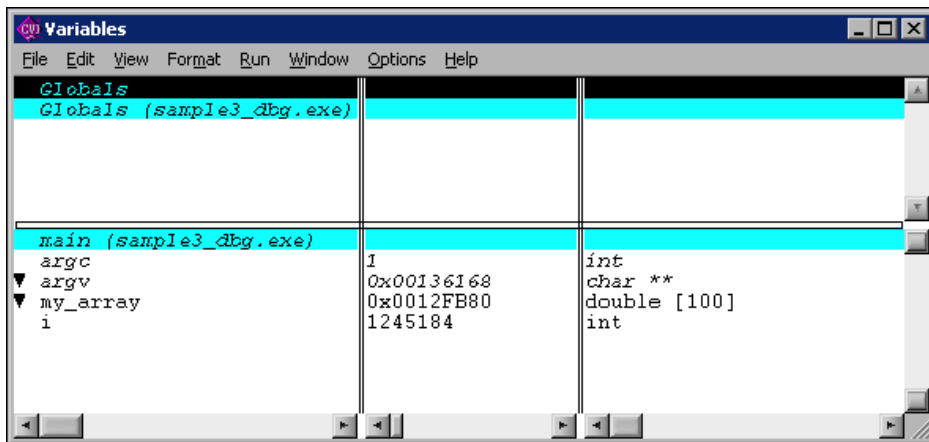

Figure 4-2. Variables Window during Execution of main
3. Select **Window»Variables**. The Variables window appears as shown in Figure 4-2.
Note The values you see for your project might differ from the values shown in Figure 4-2.